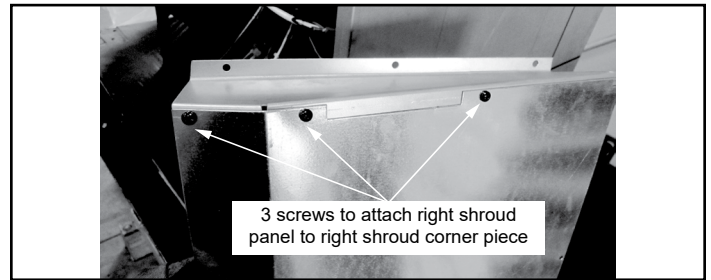

Figure 22.5
8. Assemble the right shroud panel corner and the right shroud panel using 3 screws (**Figure 22.5**).